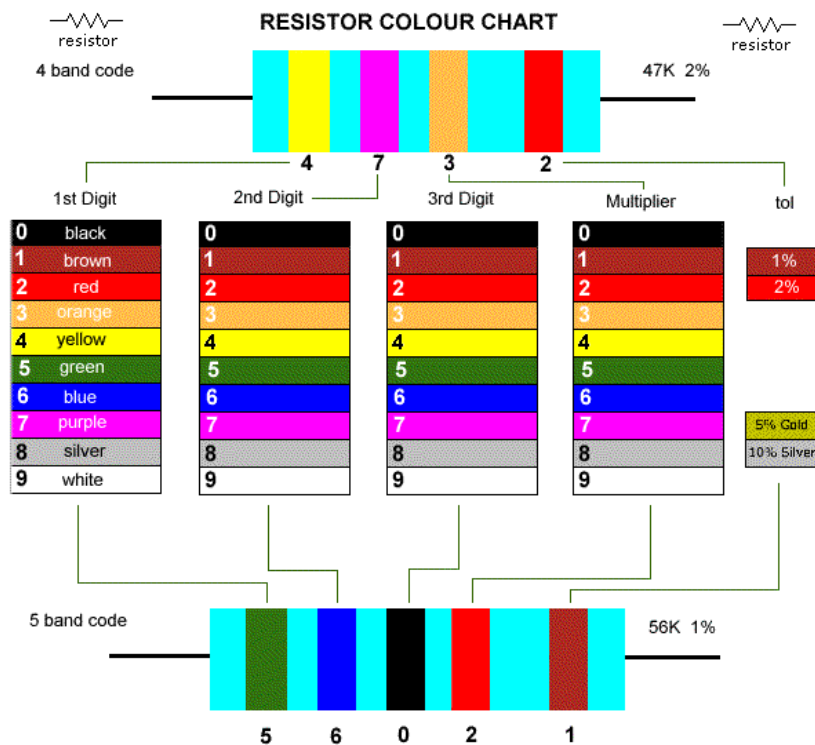

Figure 1A – PC-3U Assembly (Component Values)
III. Stage 1 – Printed Circuit Board Assembly - Refer to Figures 1A & 1B
Refer to the component placement drawing (Figure 1A). Be sure to check with an ohmmeter resistor values if you are not absolutely sure of how to read metal film resistor color codes.
1. Install all of the ½ Watt resistors. There are a total of 18 ½ Watt resistors specified. Refer to Figure 1A (Top View PC Board Component Placement Diagram). The board has been designed so that a gentle radius near the body of the resistor will position the leads in alignment with the associated holes in the PC Board.